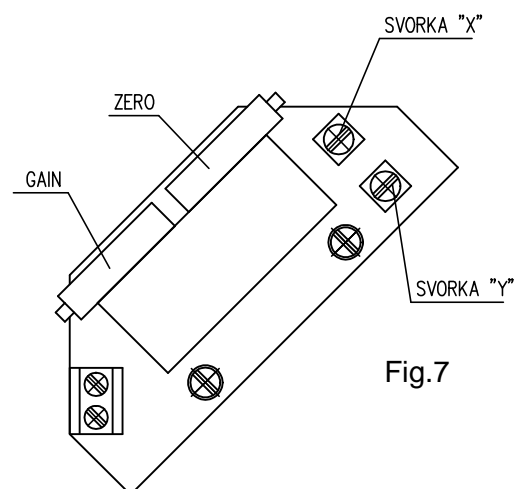

Fig.7
3.4.1 EPV – the 2-wire version (Fig. 7)
- Adjust the resistive transmitter according to the previous chapter. The resistance is to be metered on the terminals X-Y (Fig. 7). The used transmitter resistance is 100 W.
- Turn the adjusting trimmer ZERO (Fig. 7) to adjust the output current signal rate measured on the terminals 81-82 to 4mA.
- Turn the adjusting trimmer GAIN (Fig. 7) to adjust the output current signal rate measured on the terminals 81-82 to 20mA.
- Adjust the resistive transmitter according to the previous chapter. The resistance is to be metered on the terminals X-Y (Fig. 7).